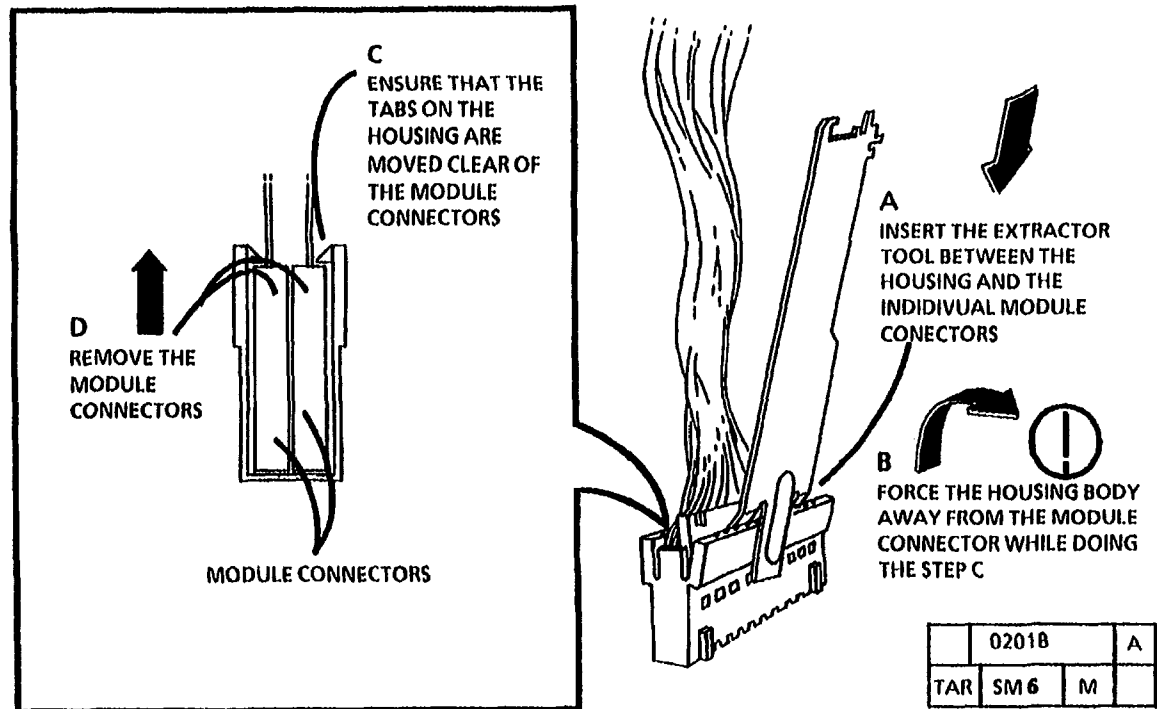

Figure 2. Remove the individual module connectors from the housing
2. (Figure 2): Remove the individual module connectors from the housing.